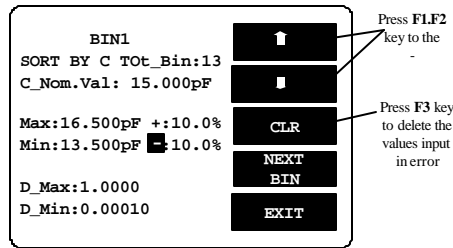

Figure 8-20
- Press \square key. Please refer to Figure 8-20 below.